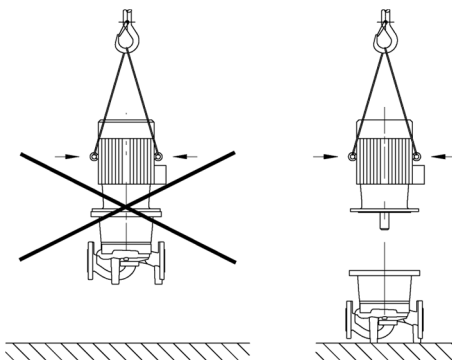

Fig. 1: Transporting the motor
- The transport eyes on the motor are only for transporting the motor, and are not approved for transporting the entire system (Fig. 1).